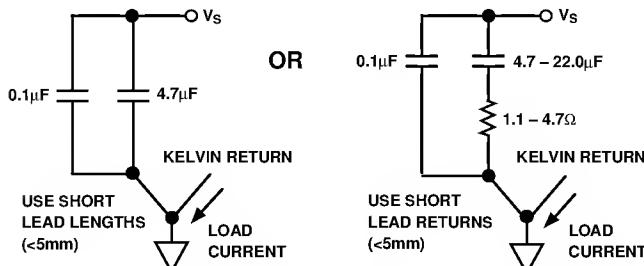

Figure 32. Recommended Power Supply Bypassing
** USE POWER SUPPLY BYPASSING SHOWN IN FIGURE 32.
To take full advantage of the very wide bandwidth and dynamic range capabilities of the AD 797 requires some precautions. First, multiple bypassing is recommended in any precision application. A $1.0\text{ }\mu\text{F}$ - $4.7\text{ }\mu\text{F}$ tantalum in parallel with $0.1\text{ }\mu\text{F}$ ceramic bypass capacitors are sufficient in most applications. When driving heavy loads a larger demand is placed on the supply bypassing. In this case selective use of larger values of tantalum capacitors and damping of their lead inductance with small value ($1.1\text{ }\Omega$ to $4.7\text{ }\Omega$) carbon resistors can be an improvement. Figure 32 summarizes bypassing recommendations. The symbol (**) is used throughout this data sheet to represent the parallel combination of a $0.1\text{ }\mu\text{F}$ and a $4.7\text{ }\mu\text{F}$ capacitor.